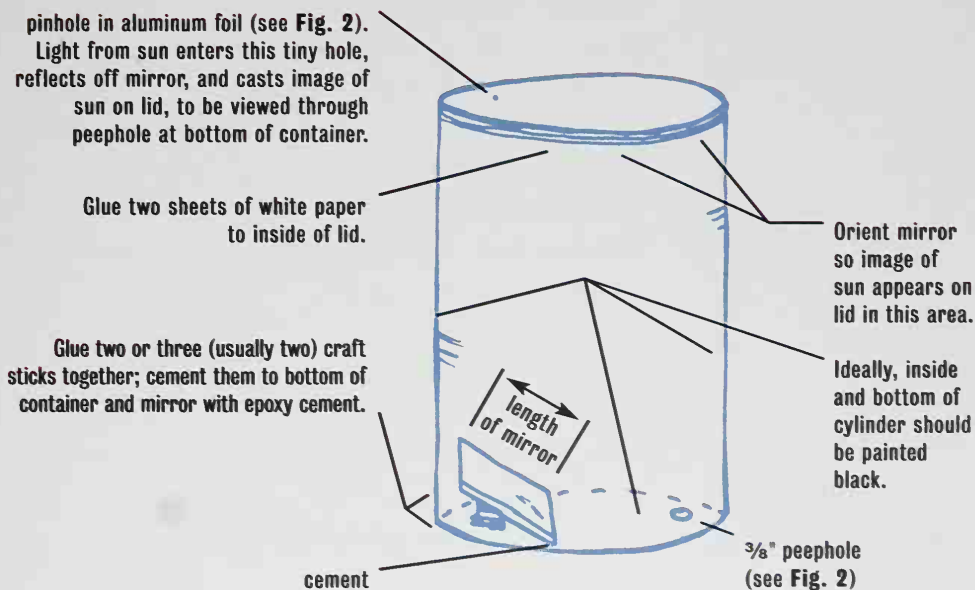

Fig. 3
6. As shown in Fig. 3, place the small mirror at the bottom of the container. In order to reflect the image so it can be seen through the peephole, the mirror must be raised slightly on the outside end. One way to do this is to glue two or three craft sticks together and then fasten the sticks to the bottom of the container with epoxy cement. Cement the mirror to the craft sticks.